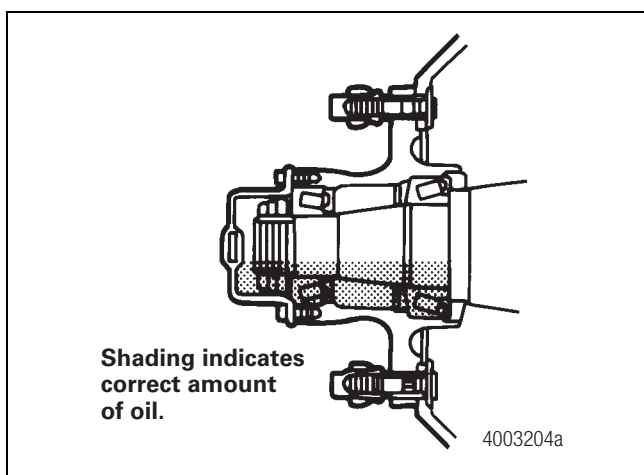

Figure 14.4
3. Fill the wheel end with an approved gear oil to the hubcap fill line. The oil must be given sufficient time to settle prior to a final check of the oil level. This is especially important in cold conditions. Figure 14.4.